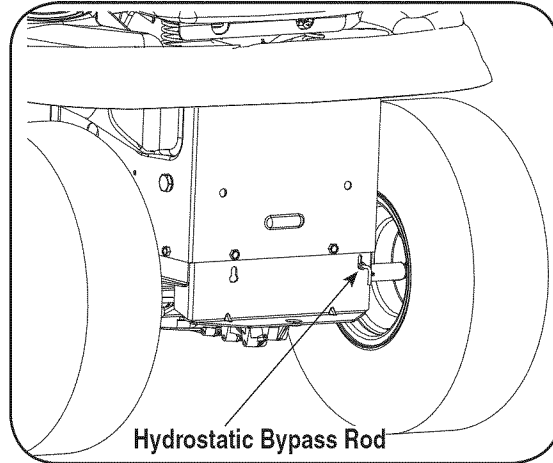

Figure 4-5
- Locate the hydrostatic bypass rod in the rear of the tractor. See Fig. 4-5